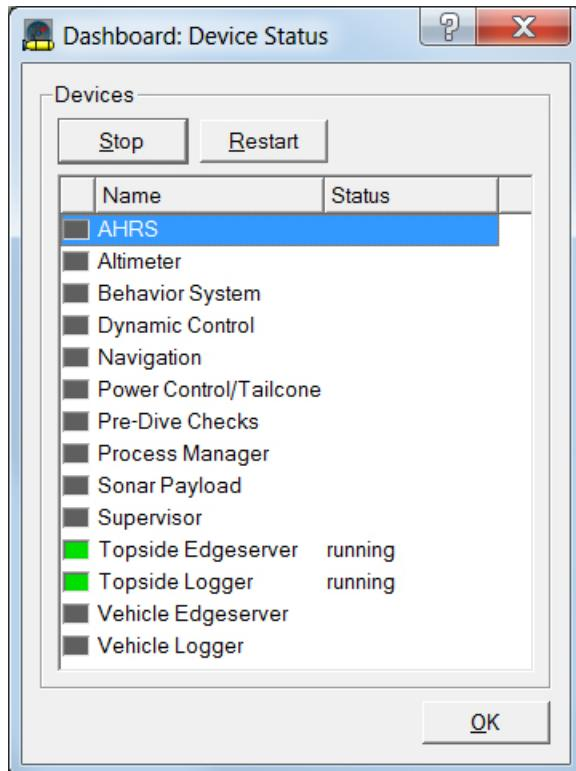

Figure 28: Device Status Window
1. Select **Devices >Device Status** from the menu bar, or type **Ctrl + D**. The Device Status window (Figure 28) opens.